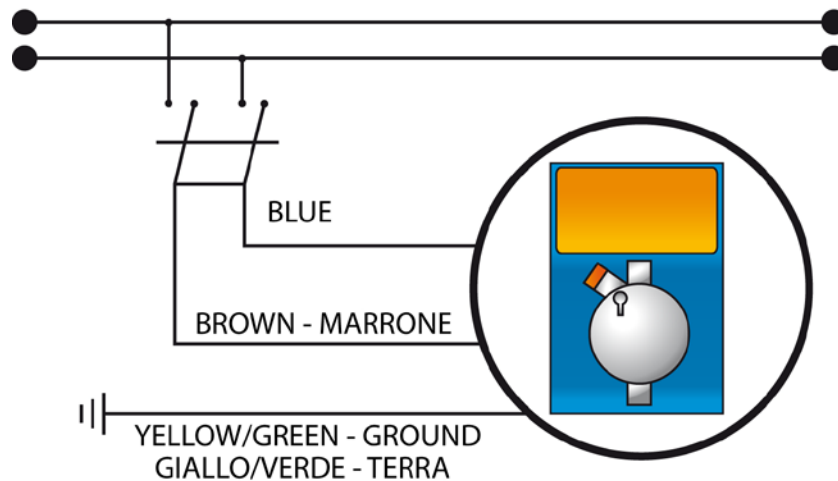

Fig.3 - Electrical scheme
- Make sure the pump is electrically deactivated (both poles) by disconnecting the conductors from the power supply using the omnipolar switch which must have a minimum distance of 3mm between its contacts (Fig.3).